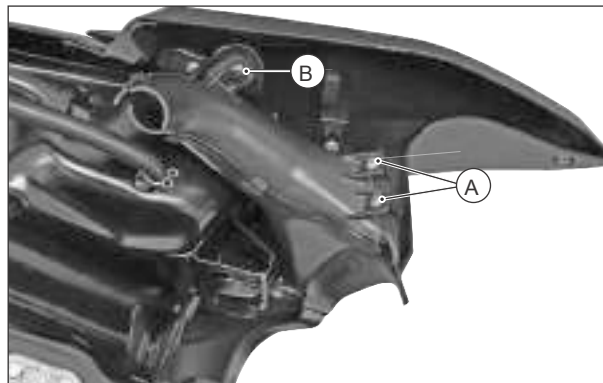

Fig. 2.9
- Remove the CRR flanged pan head tap screw (A) (ST4.2x13 - 2 nos.) from the mounting of deflector. (Fig. 2.9)
- Similarly, remove the CRR pan head screw (B) (M6x12 - 1 no.) from the mounting of deflector with cover fuel tank. (Fig. 2.9)